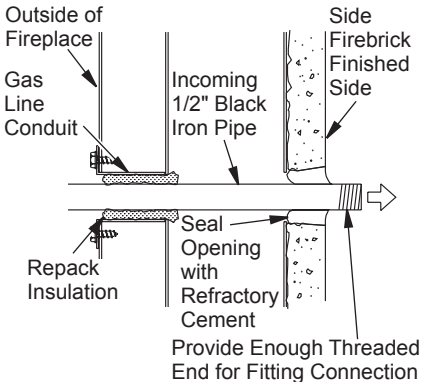

Figure 19 - Gas Line Installation
3. Run a 1/2" black iron gas line through the rear at gas line conduit sleeve (if using a raised platform, add height). Provide sufficient gas line into fireplace chamber for fitting connection (see Figure 19, page 11).